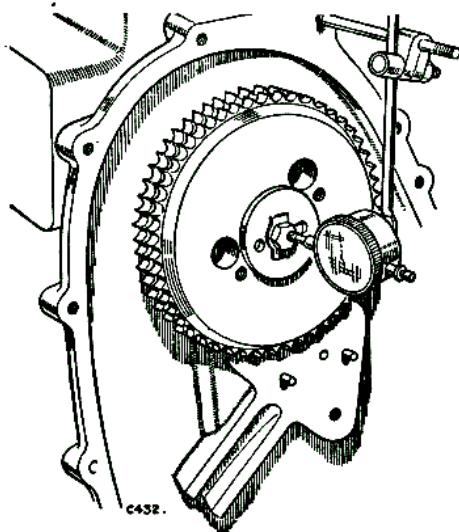

Fig. A-415—Checking camshaft end-float
2. Fit the front thrust plate and secure the camshaft chain wheel but do not bend up the locking tab for securing bolt at this stage. Check the camshaft end-float with a dial test indicator as illustrated by Fig. A-415 and ensure that the reading is within .0025 to .0055 in. (0,063 to 0,139 mm).